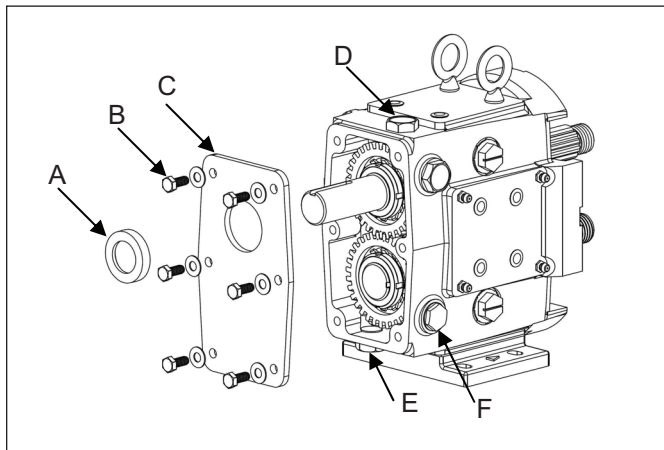

Figure 42. Gear Case Disassembly (Gear Case Cover)
1. Remove the pump head as described on *page 21* (Pump Disassembly). Remove the bottom oil plug and drain the oil from the gear case (remove oil fill plug for faster drain). Remove the six hex head cap screws and washers from the gear case cover and slide the cover off the drive shaft (*Figure 42*). If the cover is stuck, use a soft mallet to tap around the edges until it breaks free. Using a straight edge remove the liquid gasket used to seal the cover to the gear case. Remove and discard the oil seal from the cover using an arbor press.